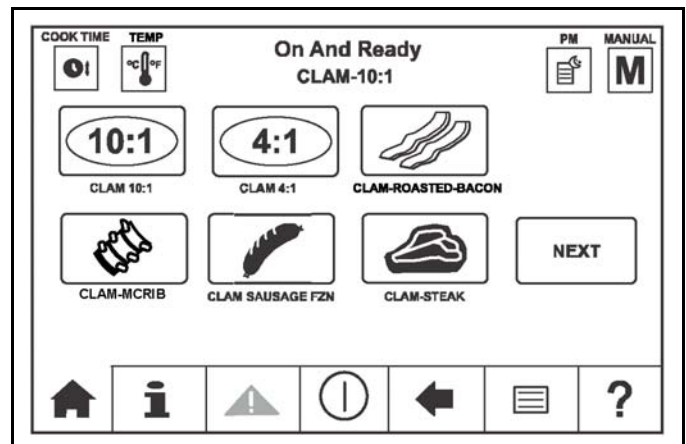

Figure-23
- Press the Menu key  to display the Menu screen. See Figure-23.